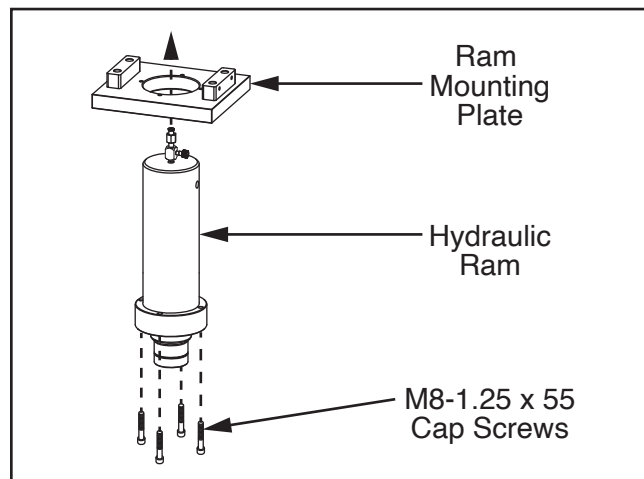

Figure 9. Securing hydraulic ram to ram mounting plate.
9. Insert hydraulic ram through ram mounting plate and secure with (4) M8-1.25 x 55 cap screws (see **Figure 9**).